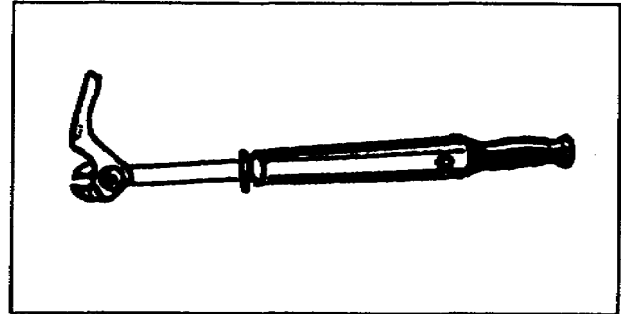

Figure 2-53. Nail puller
a. Nail Pullers. Nail pullers (Figure 2-53) are used for removing nails, especially those that are driven flush or below the surface of wood. A nail puller has two jaws that set over the nailhead. Pressure is applied by a series of bows from the sleeve. The sleeve, which fits over the handle and slides up and down, is usually equipped with a guard to protect your hand from the sliding sleeve. The average length of a nail puller is 18 inches.